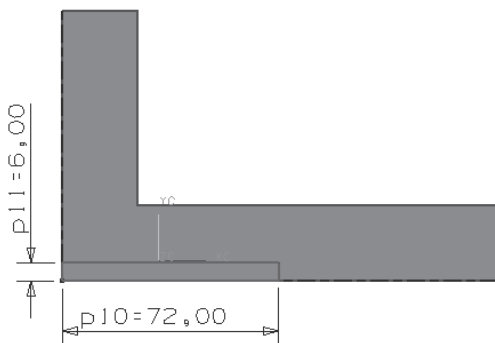

Figure 4-70 Sketch for the second feature
- Create the second feature with the **Subtract** operation using the sketch drawn on the front face of the base feature, refer to Figures 4-70 and 4-71.
2. Draw the rectangular sketch for the cut feature. Make the bottom line and the left line of the rectangle collinear with the edges of the base feature. Add the required dimensions, as shown in Figure 4-70.